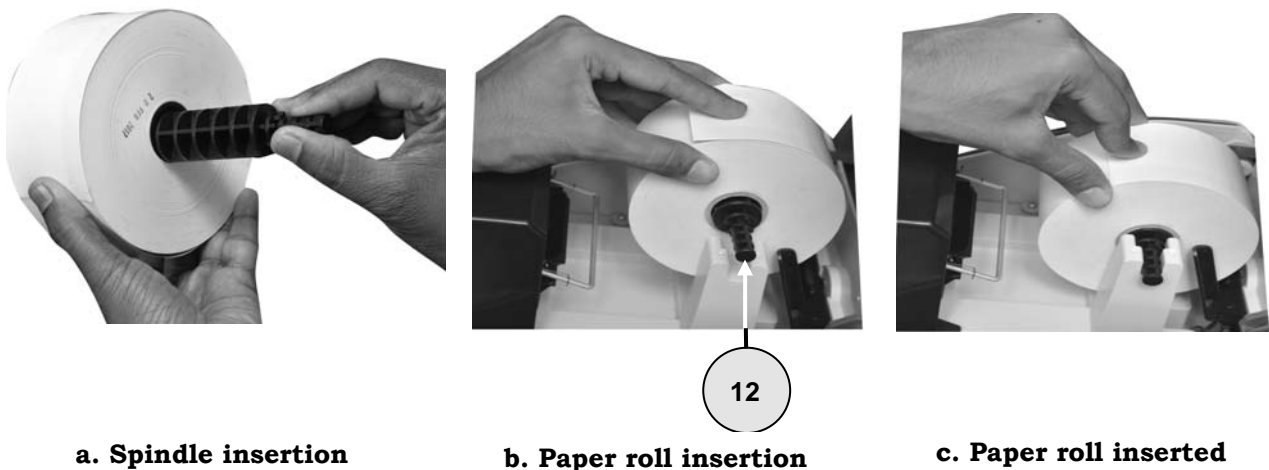

Figure 3.12 - Paper Roll Installation
- (e) Insert the spindle into the paper roll as shown in Figure 3.12(a).
- (f) Place the paper roll with spindle into VVPAT - M3 through grooves as shown in Figure 3.12(b).